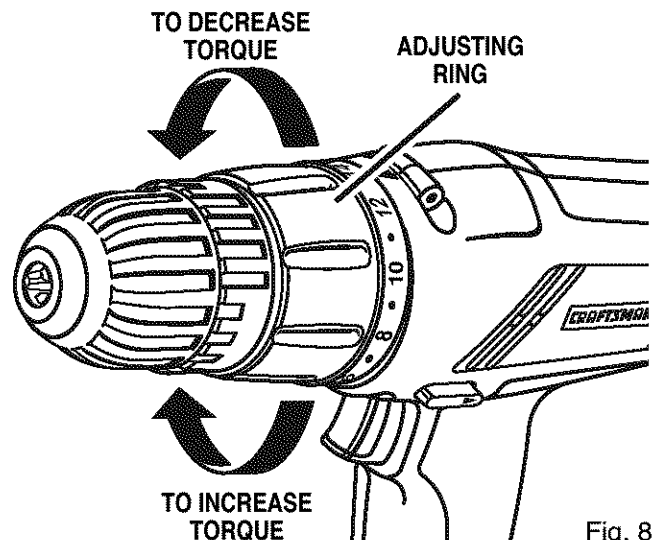

Fig. 8
- Identify the twenty four torque indicator settings located on the front of your drill. See Figure 8.